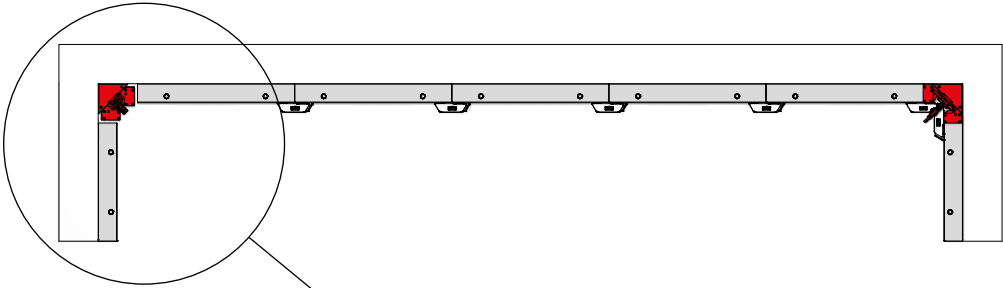

Fig. 38.2
- 2. Activate the M stripping corner (Fig. 38.2 and pages M350-35 to -37).